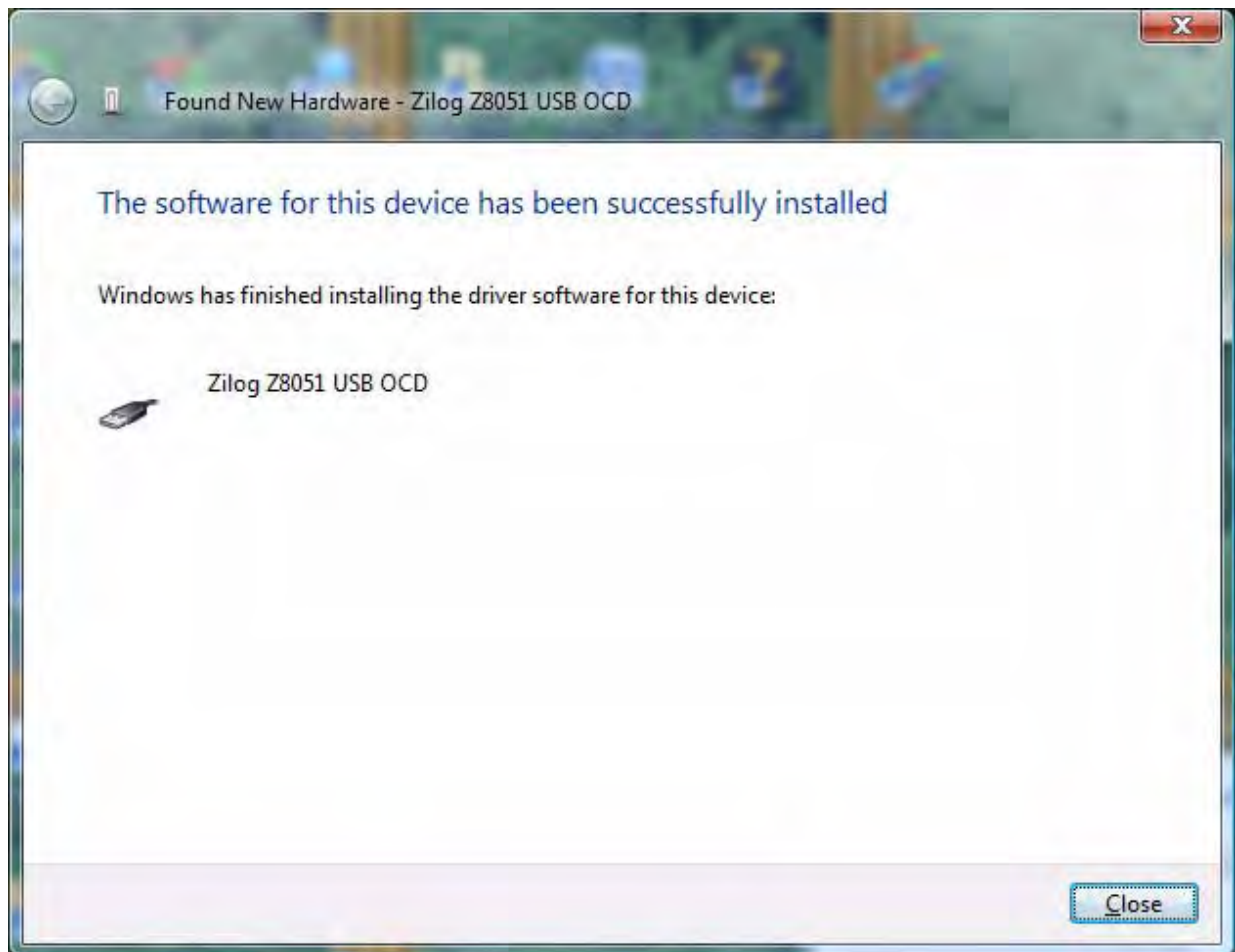

Figure 7. Successfully Installed Dialog, Windows Vista
5. When the installation is complete, the screen shown in Figure 7 will appear. Click **Close** to exit the OCD driver installation.
► **Note:** On some installations, the Found New Hardware screen shown in Figure 7 may also display the text string, `zilog z8051 USB OCD - No Firmware`. This occurrence is normal and can be disregarded.